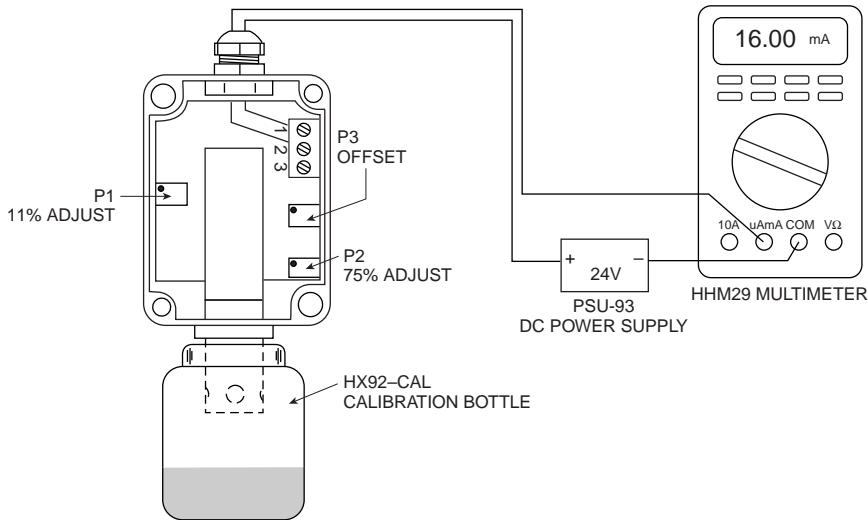

Figure 8: HX92AC Typical Calibration Setup
2. Connect transmitter as shown in Figure 8.